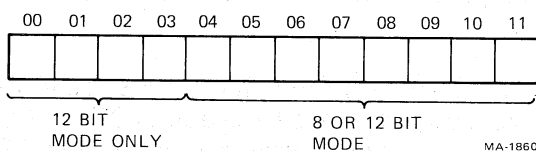

Figure 4-8 RX2DB Format (RX8E/RX28)
4.1.3.5 RX2DB – RX Data Buffer (Figure 4-8) – All information transferred to and from the floppy media passes through this register and is addressable only under the protocol of the function in progress. The length of data transfer is either 8 or 12 bits, depending on the state of bit 5 of the command register when the Load Command IOT is issued (Paragraph 4.1.3.1).